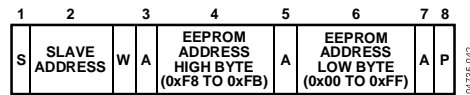

Figure 41. Setting an EEPROM Address
- To set up a 2-byte EEPROM address for a subsequent read, write, block read, block write, or page erase. In this case, the command byte is the high byte of the EEPROM address from 0xF8 to 0xFB. The only data byte is the low byte of the EEPROM address, as shown in Figure 41.